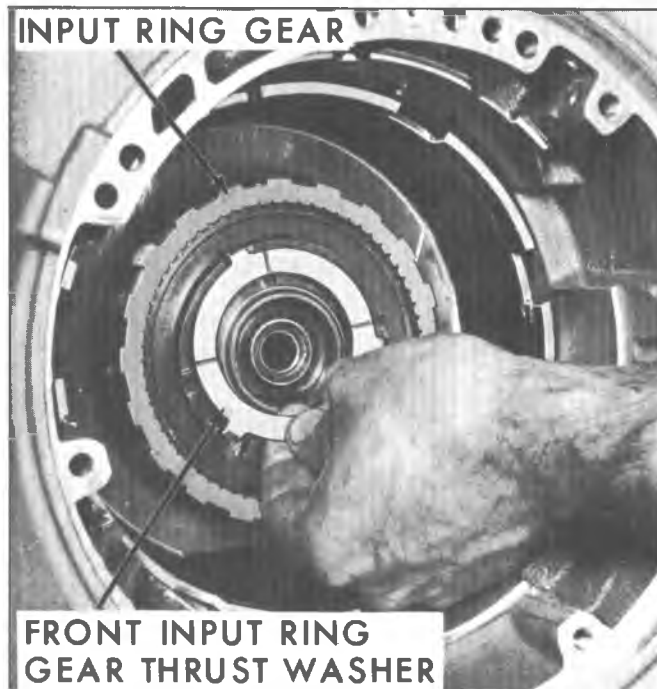

Fig. 32N--Removing Input Ring Gear Front Thrust Washer
7. Remove input ring gear front thrust washer (fig. 32N).